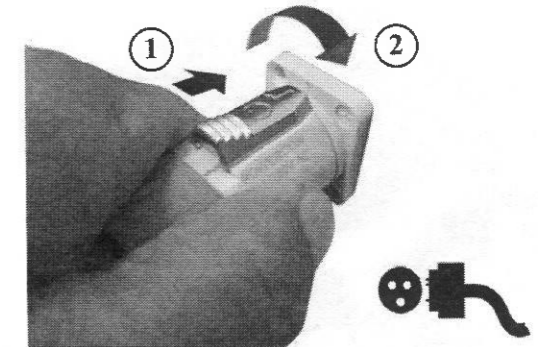

Fig.11.2
17. Connect the charger end to the specially designed connection point (Fig.11.2). Plug the other end of the charger into a standard wall outlet to reenergize the batteries. The charger will automatically shut off and the light will indicate the color GREEN when the unit is fully charged.